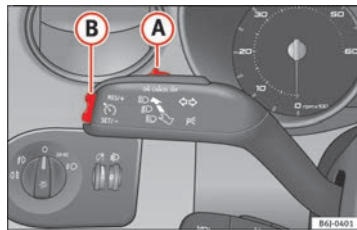

Fig. 130 Turn signal and main beam headlight lever: switch and rocker switch for the cruise control.
- Press the lower part **SET** of the rocker switch ⇒ Fig. 130 (B) once briefly when you have reached the speed you wish to set.
- Press the upper part **RES** of the rocker switch ⇒ Fig. 130 (B) to increase the speed. The vehicle will continue to accelerate as long as you keep the rocker switch pressed. When you release the switch, the new speed is stored.
- Press the lower part **SET-** of the rocker switch ⇒ Fig. 130 **(B)** to reduce the speed. The vehicle will automatically reduce its speed for as long as you keep the switch pressed. When you release the switch, the new speed is stored.
Cruise control is switched off if you reduce speed by depressing the brake pedal. Reactivate the control by pressing once on the upper part of the rocker switch **RES+** ⇒ Fig. 130 **(B)**.